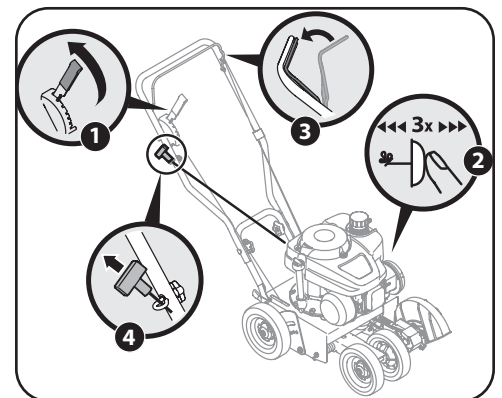

Figure 2
2. Push the primer three times. See Figure 2. Do not prime to restart a warm engine.
- With your right hand, grasp recoil starter handle and pull rope slowly until resistance is felt, then pull with a rapid, continuous, full arm stroke. See Figure 2. Keeping a firm grip on the starter cord handle, let the rope rewind slowly. Repeat until engine cranks. Let the rope rewind each time slowly.